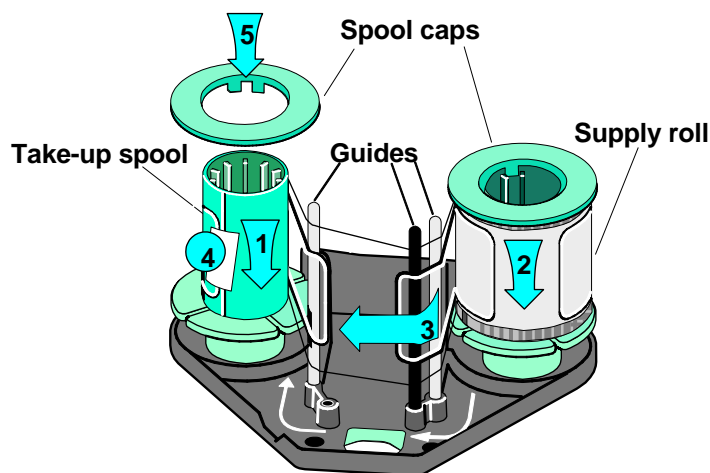

Figure 4-9: Load supply in the cartridge
- 5 Remove the empty spool from the holder and press it into place on the take-up holder (step 1 in Figure 4-9). Make sure the ribs inside the spool align with the grooves in the holder.
- 8 Place the full supply roll on the right holder as you face the open side of the cartridge (step 2 in Figure 4-9). Make sure the supply will unroll counterclockwise Ω , as shown.
- 11 Wind the supply material in front of the guides and around the take-up spool (step 3 in Figure 4-9). Make sure that the material will wind counterclockwise .
- 12 Press the label onto the take-up spool to secure the supply material (step 4 in Figure 4-9).
- 13 If your cartridge includes spool caps, press the spool caps back into position on the ends of the take-up spool and supply roll (step 5 in Figure 4-9).